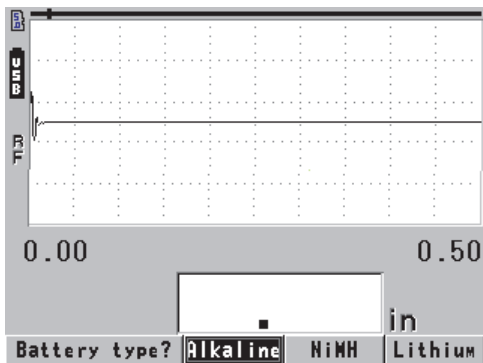

Figure 2-4 Selecting the battery type
12. To answer the question appearing at the bottom of the screen (see Figure 2-4 on page 41):